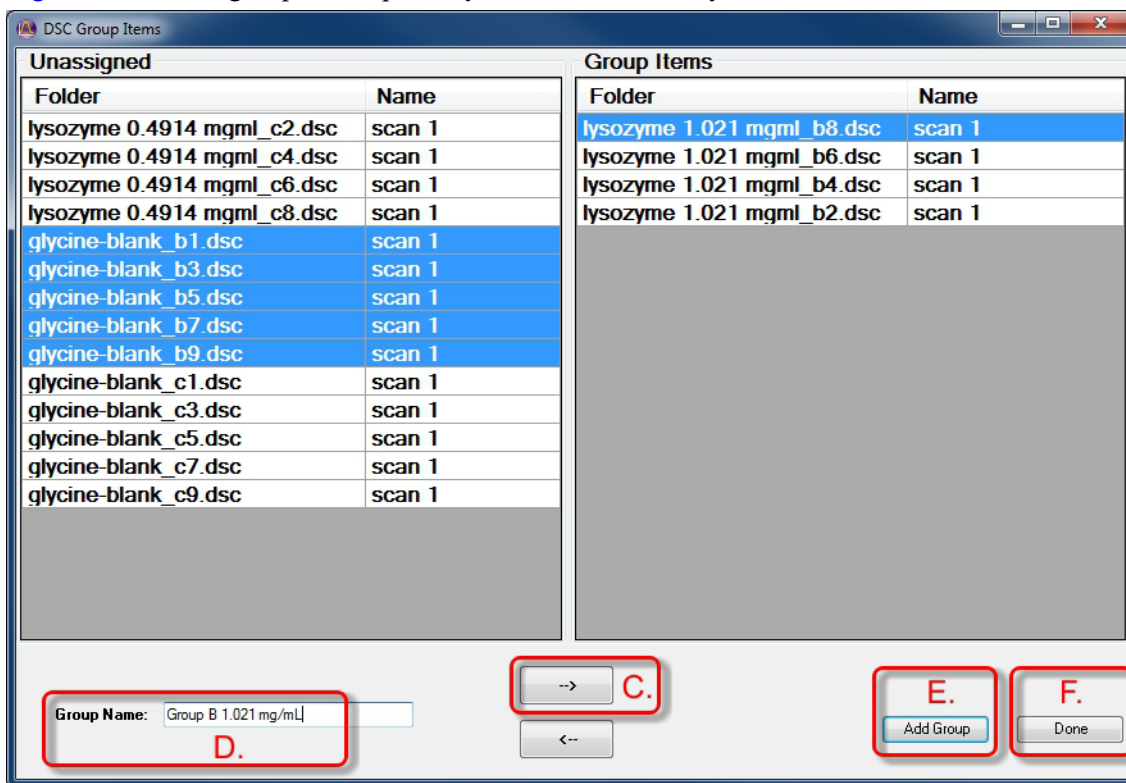

Figure 55 Defining a Group.
Figure 55 shows a group that is partially defined and is ready to add more files.
- D If multiple **Groups** are to be created, provide a unique name for each in the entry box at the lower left (shown in Figure 55).
- E When the list of files on the right side is complete and correct, complete the creation of the group by clicking **Add Group** (shown in Figure 55).